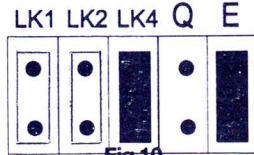

Fig.10
1. Fit link "E" and three sensitivity links as required as in Fig.10